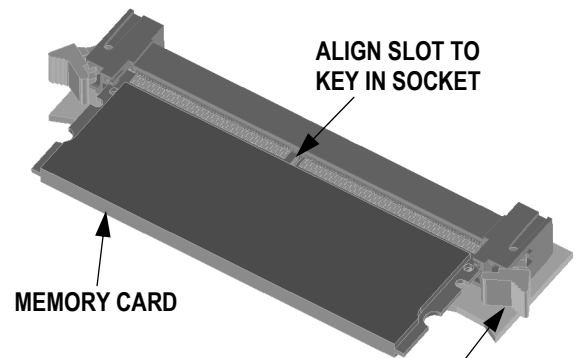

Figure 3
2. By hand, start the memory card into the guide slots of the socket. Make sure the slot in the card aligns to the key in the socket. See Figure 3.